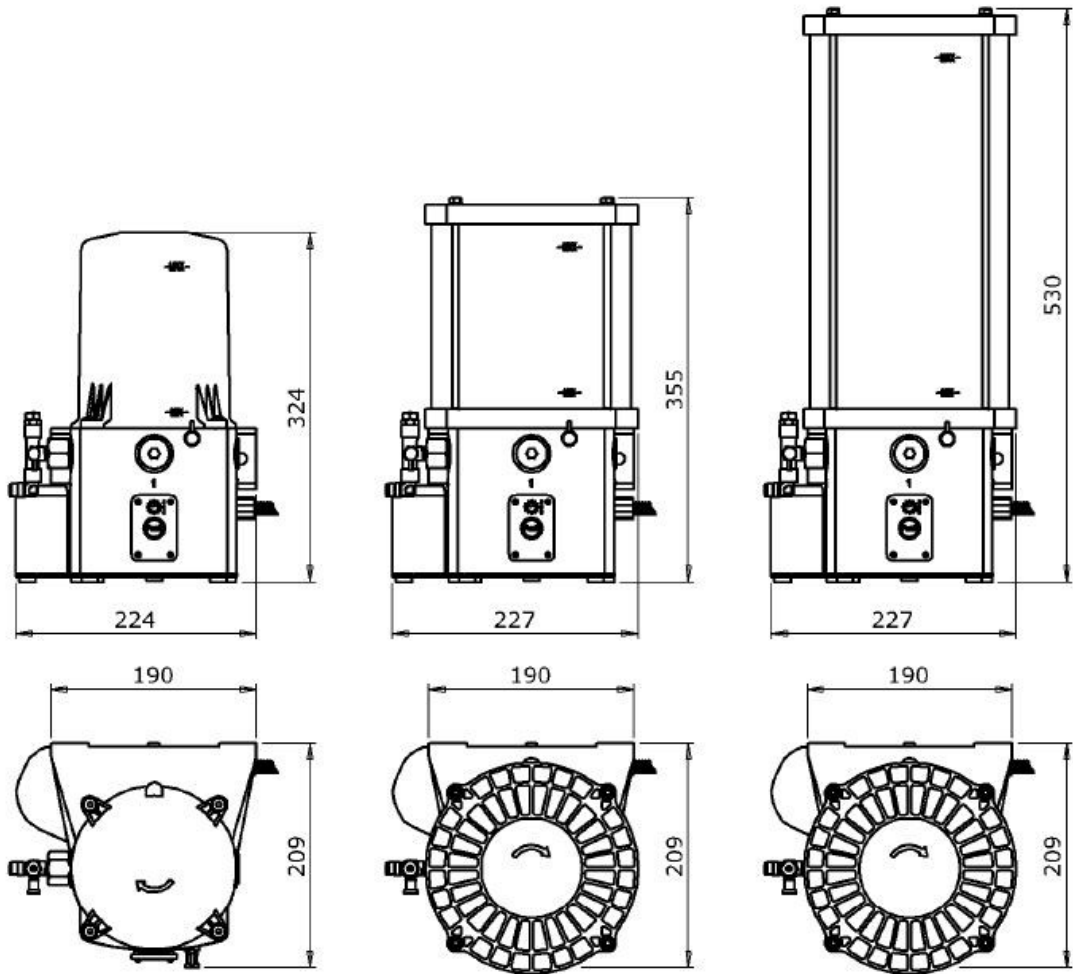

Figure 3
**Figure 3** shows the dimensions of each pump model expressed in [mm]: